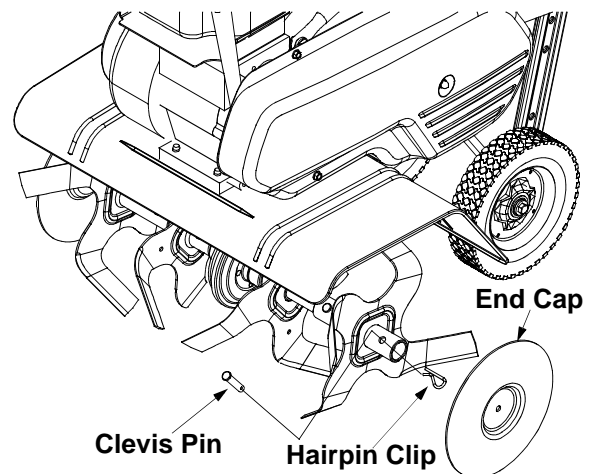

Figure 10
- Push primer two (2) or three (3) times. See Figure 10. Wait about two (2) seconds between each push.
The end cap, which are used to avoid tilled soil from overflowing onto unwanted areas, are removable from the outer axle. Remove the hairpin clip and clevis pin that is securing each end cap and slide end cap off the axle. See Figure 10.